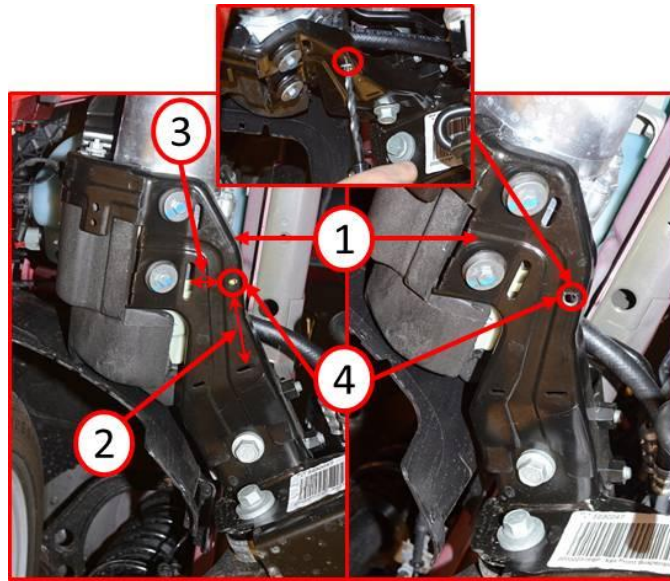

**Fig. 5 Cooler Clip Installation**
15. Using long needle nose pliers (1) attach the retaining clips (2) to the back of the cooler holding clips (3) located between the radiator and the condenser (Fig. 5).
18. Seat the radiator assembly lower rubber isolators (4) (Fig. 5) into the mounting holes in the lower radiator support and tighten the attachment bolts. Refer to (Fig. 1).